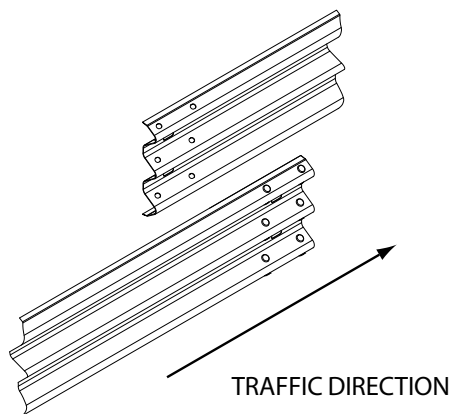

Figure 15: Orientation of Rail Lap
11. Rails are orientated so that no leading edge is presented to the traffic face as shown in Figure 15.